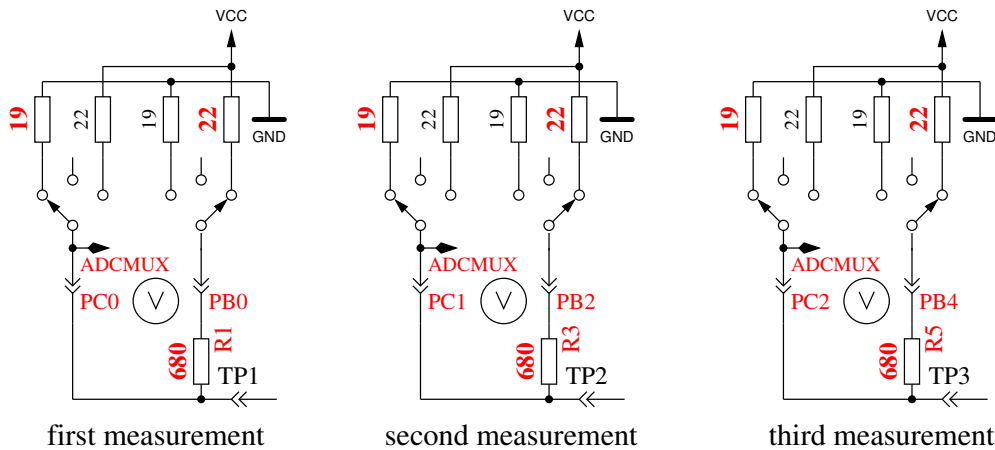

Figure 5.40: Measurement of internal resistance of Port C switched to GND
5. **This step tests the capability of GND (-) connected  $470k\Omega$  resistors (H) to pull the test pins to GND.** Row 1 shows the text “RH-”. Row 2 should display zero for all three pins.
6. **This step tests the capability of VCC (+) connected  $470k\Omega$  resistors (H) to pull the test pins to VCC (+).** Row 1 shows the text “RH+”. The results are shown als difference to VCC and should be near zero. Great differences from the best value for test 5 and 6 are errors such as isolation problem, flux material or damaged port.
7. **Measuring of internal resistance of pin output switched to the GND signal.** This test and the follwing tests will only be done, if the option AUTO\_CAL is selected. The internal resistance of the port C outputs switched to GND (-) are measured with the current of to VCC (+) switched  $680\Omega$  resistors, see Figure 5.40. Only the three pins of the ADC port are measured, the resistor port B (PB0,PB2 and PB4) can not be measured without hardware modification. Is is assumed that the port resistance of the different ports are nearly identical. The resistor value will be shown in the next test.